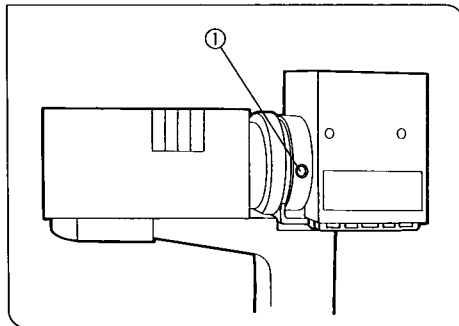

Fig. 5
1. Using the Allen screwdriver, loosen the clamping screw ① on the right side of the lamp housing and detach the lamp housing. (Fig. 5)
4. Using the Allen screwdriver, loosen the clamping screw ① on the right hand side of the lamp housing. Mount the lamp housing horizontally and securely tighten the clamping screw. (Fig. 5)